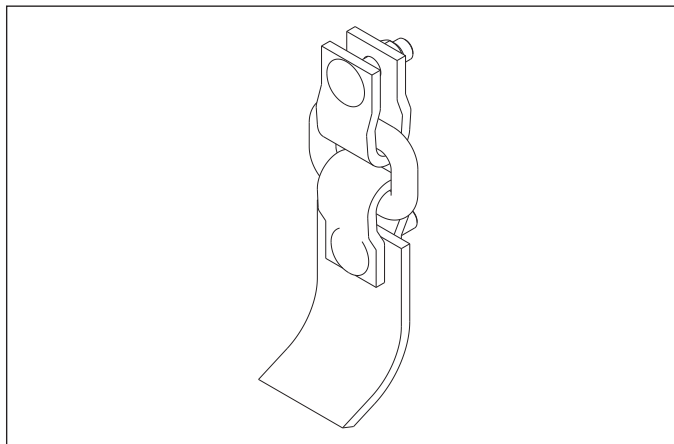

Figure 4-9: Cup Knife Assembly
- **Cup Knives** create more suction under the hood to draw crop into the cutting zone. **See Figure 4-9.**